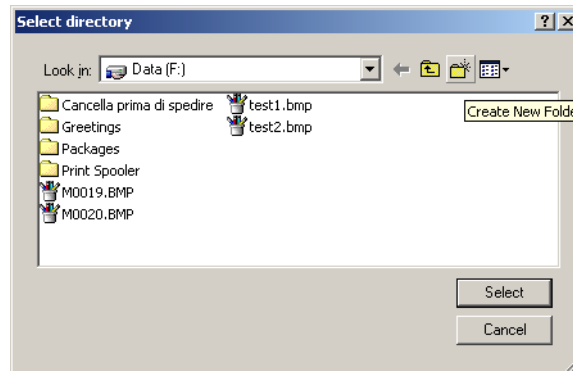

Fig.102 - Select directory dialog
- 2) The **Color profiles folder** box features the destination folder for the color maps. Use the **Browse** command to select or even to create the folder. The **Select directory** window appears, as shown in fig. 102. Use the **Create New Folder** command if necessary.